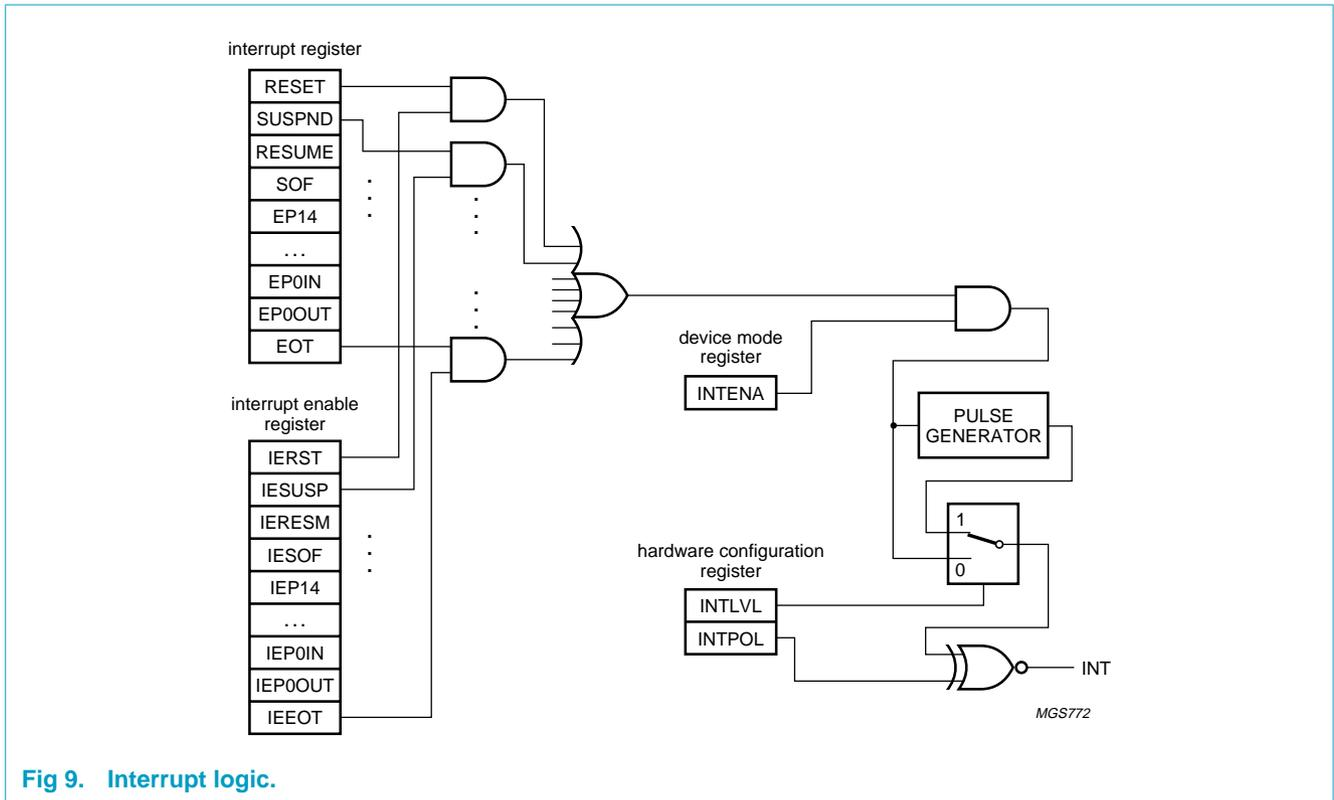

Fig 9. Interrupt logic.
**Figure 9** shows the interrupt logic of the ISP1181A. Each of the indicated USB events is logged in a status bit of the Interrupt Register. Corresponding bits in the Interrupt Enable Register determine whether or not an event will generate an interrupt.